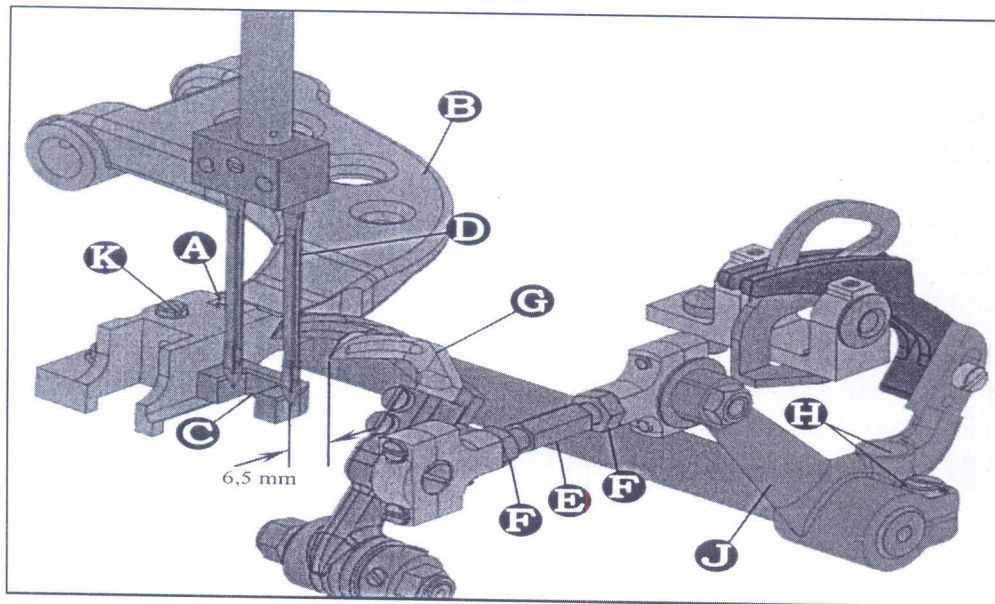
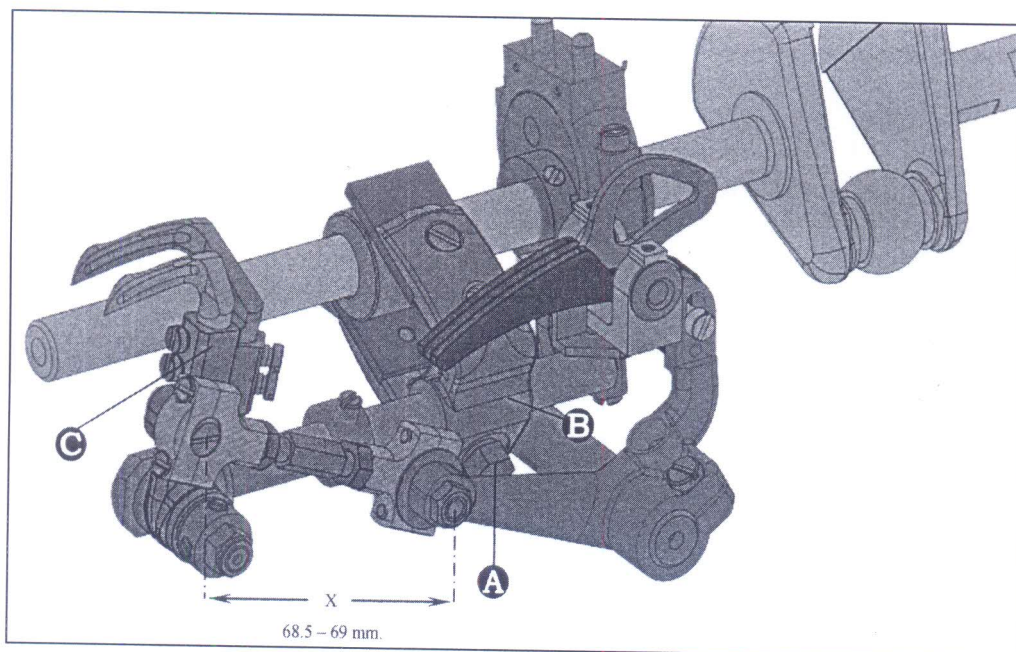
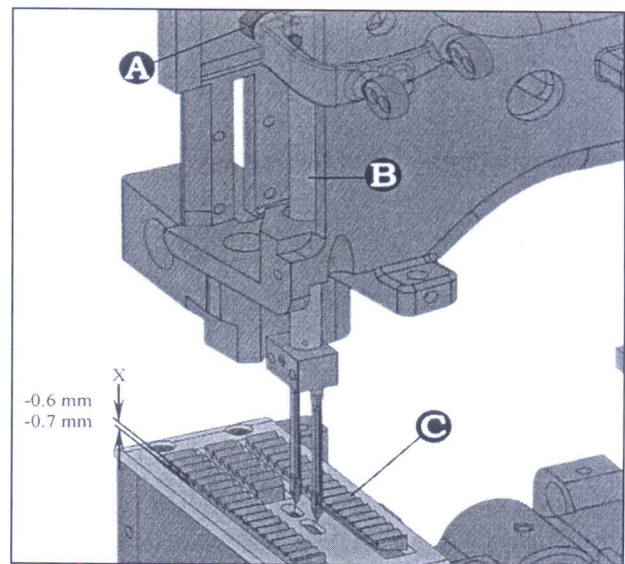

FIGURE 3
FIGURE 4
FIGURE 6
Remove the presser foot, throat plate and feed dog, for convenient access to the machine. Loosen the screw (A, Fig.3) in the feed bar (B) and push the feed bar needle guard (C) to the rear to avoid its contacting the needle(s) (D). Set the looper connecting rod (E) so that the distance (X, Fig.4) between the centerlines of the two ball joints is 68.5 - 69 mm. For adjustment, loosen the two nuts (F, Fig.3) and turn connecting rod (E) forward or backward as required to obtain specified measurement. Retighten nuts (F).
Rotate the machine pulley in the operating direction so that the looper moves from right to left. The looper point should pass as close as possible to the back of the needle without contacting it within the clearance of 0.08 to 0.13 mm. For adjustment, loosen screw (A, Fig.4) in the looper eccentric fork (B) and move the looper rocker shaft (C) forward or backward as required. Retighten screw (A).
Remove the cloth plate with serial number 3701 CA. Rotate machine pulley in operating direction until the looper point projects 3 mm past the needle. The lower edge of the looper and the upper edge of the needle eye must be flush in this position. If adjustment is necessary, loosen clamp screw (A, Fig.6) in the needle bar connection and move the needle bar up or down, as required. Retighten screw (A) and remount face cover (81387).
At the lowest point of feed dog travel, the lower feed dog (C, Fig.6) should be set so that the full depth (X, Fig.6) of the rear teeth are 0.6 - 0.7 mm below the throat plate surface. For setting, remove the lower feed dog and adjust the supporting screw (K, Fig.3) above so that the lower feed dog reaches the necessary height. Remount the lower feed dog.
The needle guard (C, Fig.3) has to be set so that it contacts just the needle at its most forward point of travel, without deflecting it. Loosen screw (A, Fig.3) in the feed bar (B) and adjust the needle guard (C) accordingly. Retighten screw (A).